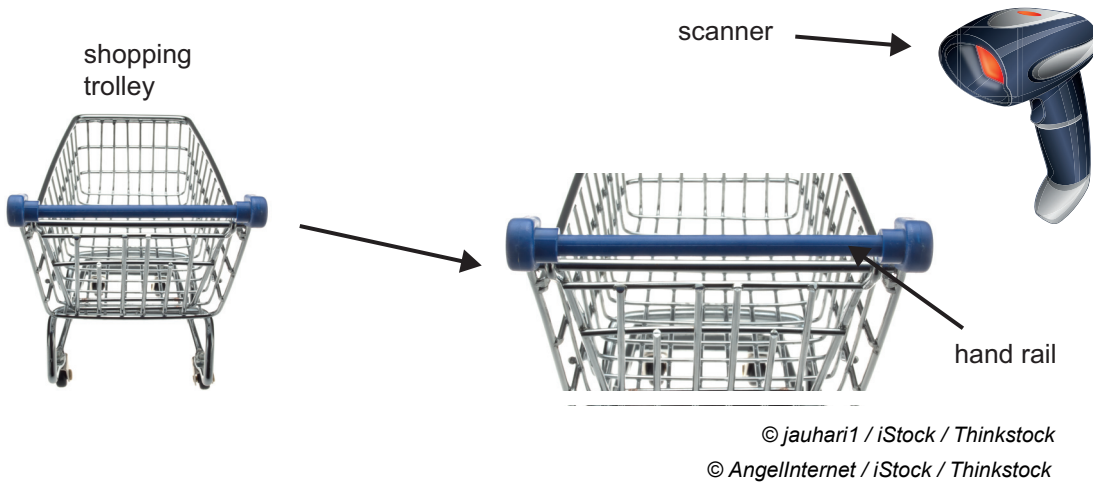

Fig. 13
- (g) With reference to **Fig. 13** above and on the blank A3 pro forma (answer number **5(g)**) use detailed annotated sketches to produce **one** possible solution for the following:
An appropriate design of a bracket which will ensure that the scanner shown in **Fig. 13** is securely housed in an upright position and is firmly attached to the hand rail of the shopping trolley. Your design should allow the user to quickly move the bracket and scanner along the circular shaped hand rail to accommodate left and right-handed people.